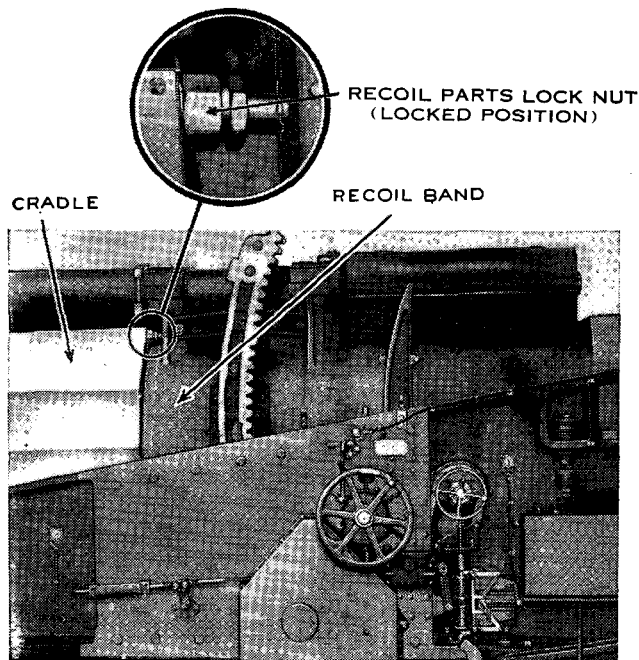

Figure 15. Recoil parts lock.
26. RECOIL PARTS LOCK. The recoil parts lock has been provided to prevent the gun from sliding out of battery when it is elevated and the air pressure in the recuperator cylinders is insufficient to keep it in battery. The recoil parts lock is at the right top just below the right recuperator cylinder at the joint of the recoil band and cradle (fig. 15). Before firing the gun or exercising the parts that move in recoil, the chief of breech, by